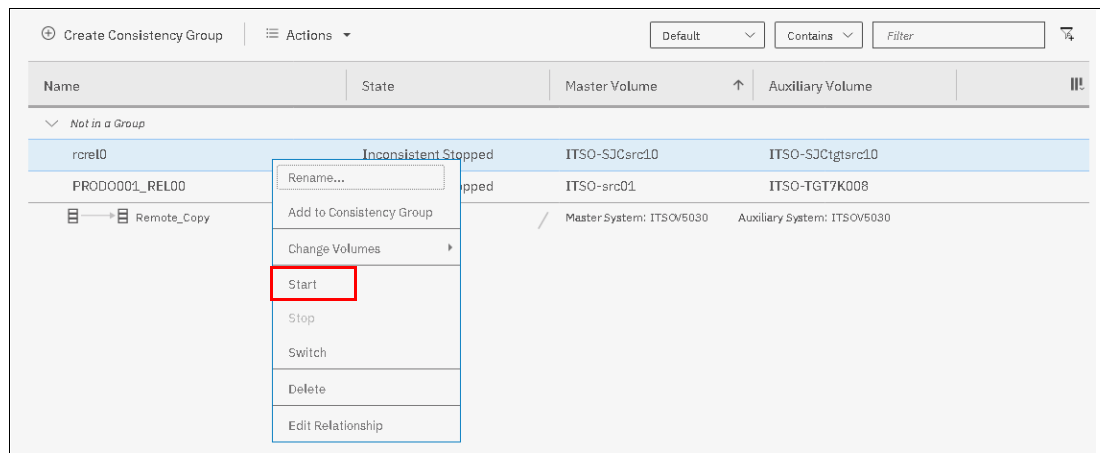

Figure 10-107 Starting the remote copy process
- Click **Actions** → **Start** to start the remote copy process, as shown in Figure 10-107.